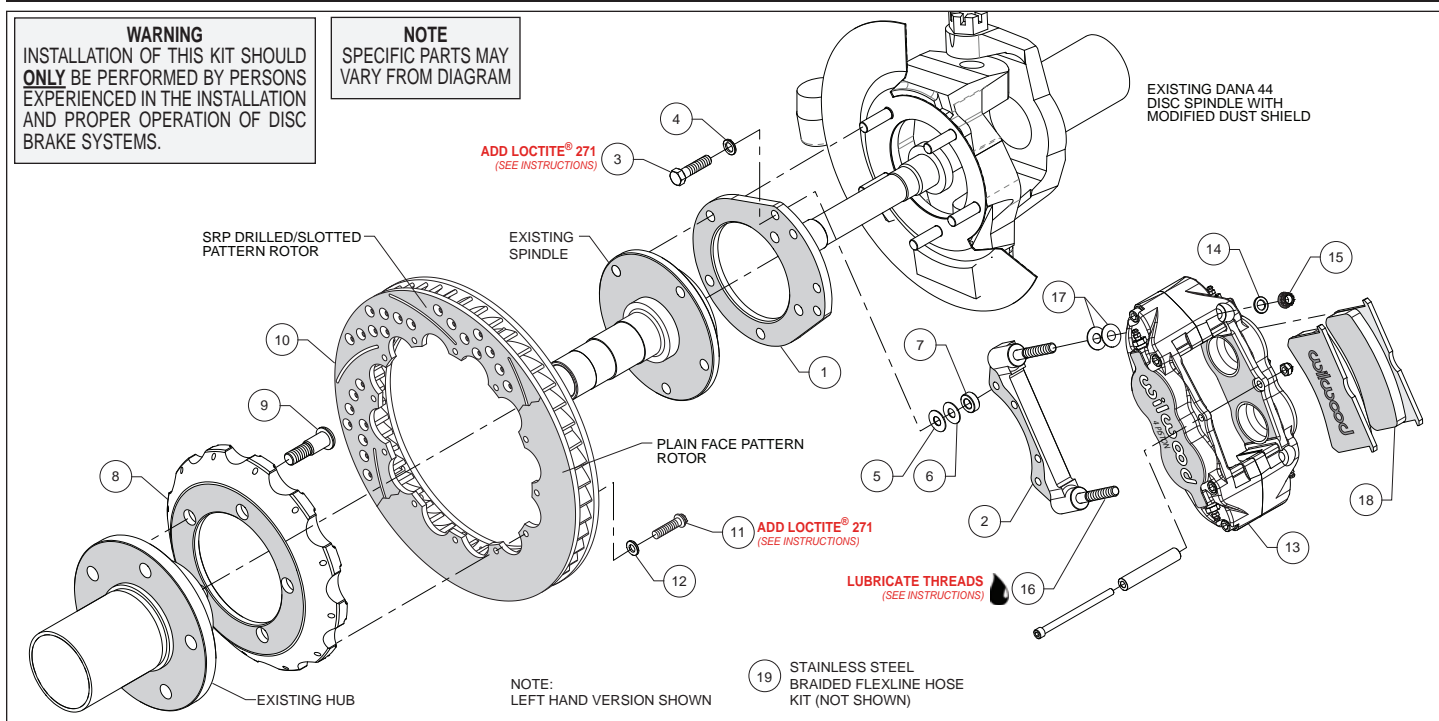
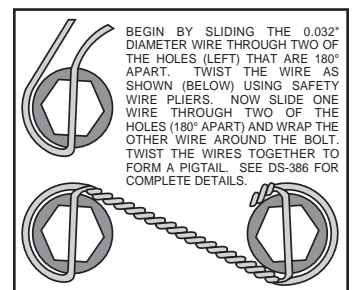

Figure 1. Typical Installation Configuration
Figure 4. Safety Wire Diagram
Assembly Instructions (numbers in parenthesis refer to the parts list and Figure 1 on the preceding pages):
- Orient the flat mount bracket (1) as shown in Figure 1 and Photo 1. Install the OEM spindle over the bracket and secure with OEM nuts, Photo 2. Temporarily tighten the mounting nuts. **NOTE:** *The bracket must fit squarely against the mount bosses on the upright.* Inspect for interference from casting irregularities, machining ridges, burrs, etc. Remove nuts one at a time, apply red *Loctite*[®] 271 to the bolt threads and torque nuts to OEM specification.
- The caliper mount bracket (2) should initially be installed with clean, dry threads on the mounting bolts. Orient the bracket as shown in Figure 1 and Photo 3, and install using mount bolts (3) and washers (4). Initially place one .035" thick shim (5) and spacer (7) on each bolt between the flat and caliper brackets, Figure 1. Temporarily tighten the mounting bolts. Later, after the caliper alignment has been checked, the mount bolts will be secured using red *Loctite*[®] 271.
- Orient the hat (8) and the OEM hub as shown in Figure 1 and Photo 4. **NOTE:** *The hat must fit flush against the hub or excessive rotor run out may result.* Install the wheel studs (9) thru the holes in the hat and press into the existing hub. **NOTE:** *We recommend this procedure be performed by a qualified machinist.*
- Orient the rotor (10) and the hat/hub assembly as shown in Figure 1 and Photo 5. Attach rotor to hat using bolts (11) and washers (12). Using an alternating sequence, apply red *Loctite*[®] 271 to the threads, and torque to 155 **in-lbs**. For an added measure of security, the bolts may be safety wired using standard 0.032 inch diameter stainless steel safety wire as shown in Figure 4. Please refer to Wilwood's data sheet DS-386 (available at www.wilwood.com/Pdf/DataSheets/ds386.pdf) for complete safety wire installation instructions.
- Lubricate the caliper mounting studs (16) with lightweight oil. Initially place two .035" thick shims (17) on each stud as shown in Figure 1 and Photo 6. Mount the caliper (13) onto the bracket (2) using lock nuts (15) and washers (14), Figure 1. Temporarily tighten the lock nuts and view the rotor through the top opening of the caliper. The rotor should be centered in the caliper, Photo 7. If not, adjust by adding or subtracting shims (5 and/or 6) between the spindle bracket and caliper bracket. Always use the same amount of shims on each of the four mounting bolts. Once the caliper alignment is correct, remove the bracket to bracket mounting bolts (3) one at a time, apply red *Loctite*® 271 to the threads, and torque to 35 ft-lb.